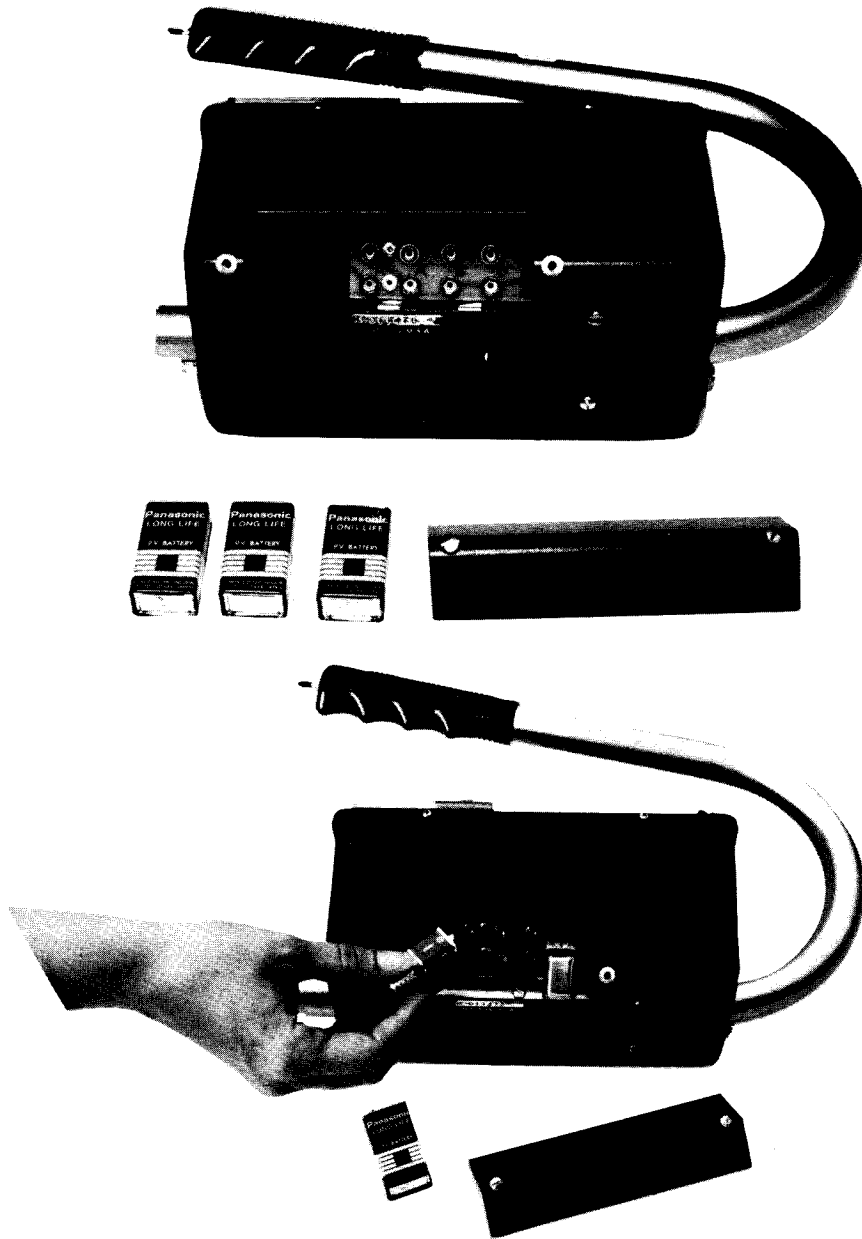

FIGURE 3
6. **CHANGING BATTERIES (See Figure 3)**